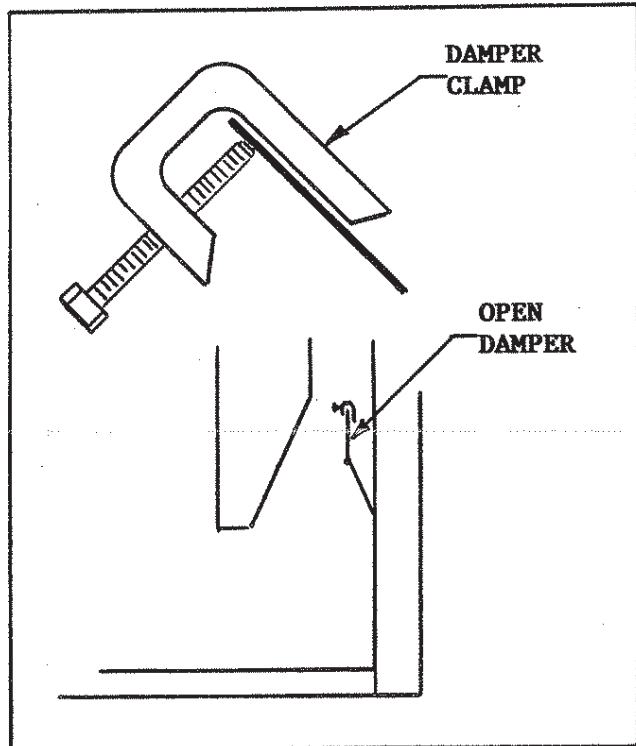

FIGURE 5
K. A damper stop clamp with set screw is provided to prevent full closure of the fireplace damper blade. Attach the clamp to the edge of the damper blade with pliers or wrenches. If the damper stop supplied does not fit the application, use a permanent means that will keep the damper open to a MINIMUM of 40 square inches. See Figure 5.